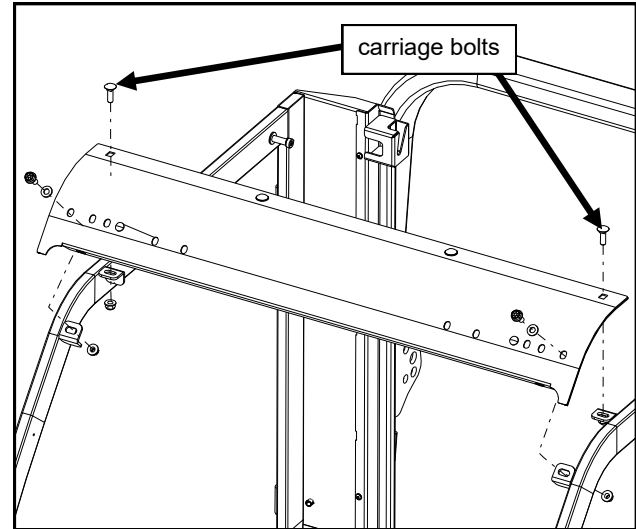

Fig. 10.1 (windshield support installation)
10.1 Install windshield support, inserting the (2) carriage bolts thru the top flange and the (2) Flange Hex Screws and Plastic washers thru the bottom flange. See fig. 10.1.